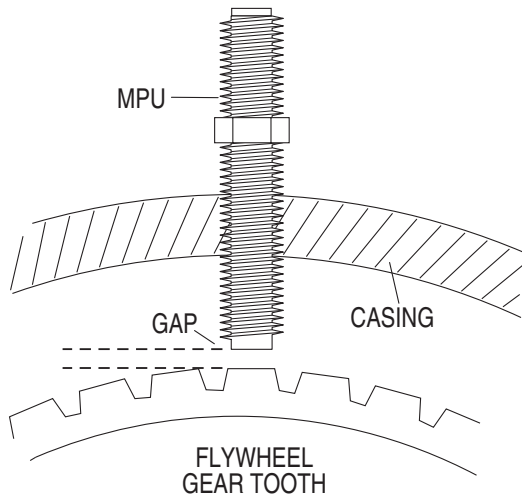

Figure 80. MPU Flywheel Gap
6. After making contact with the flywheel gear tooth, unscrew the MPU sensor counterclockwise **1/2 turn**. Reference Figure 80.